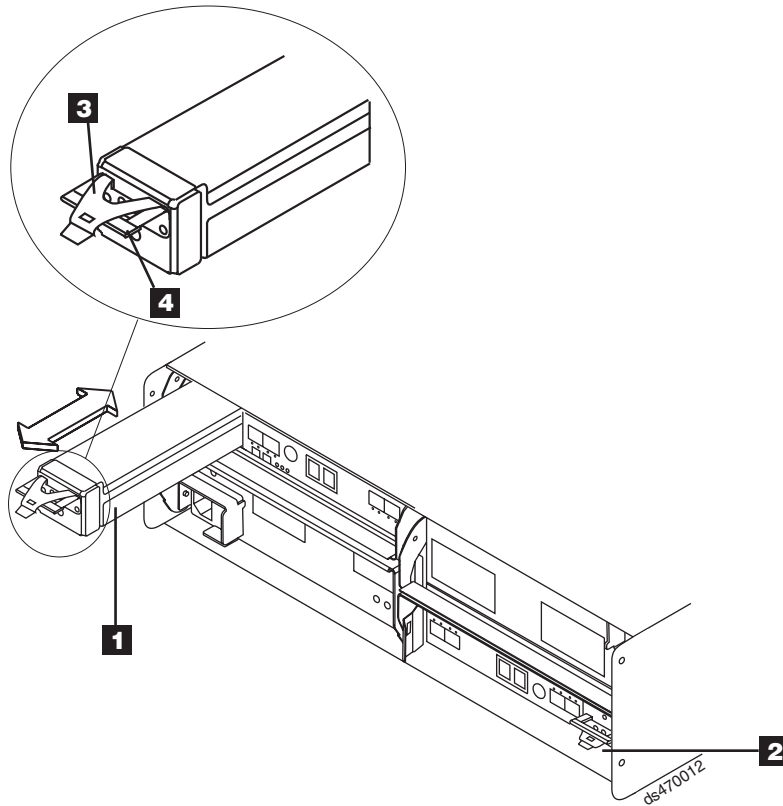

Figure 116. Removing and replacing a battery unit from the controller chassis
5. To remove the failed battery unit from the RAID controller, press the battery unit latch (the coral colored tab **3**) toward the black colored battery pull handle (**4**) to unlatch the battery from the DS4700 Express chassis and slowly pull the battery unit from the controller chassis using the black handle, as shown in Figure 116 on page 176.